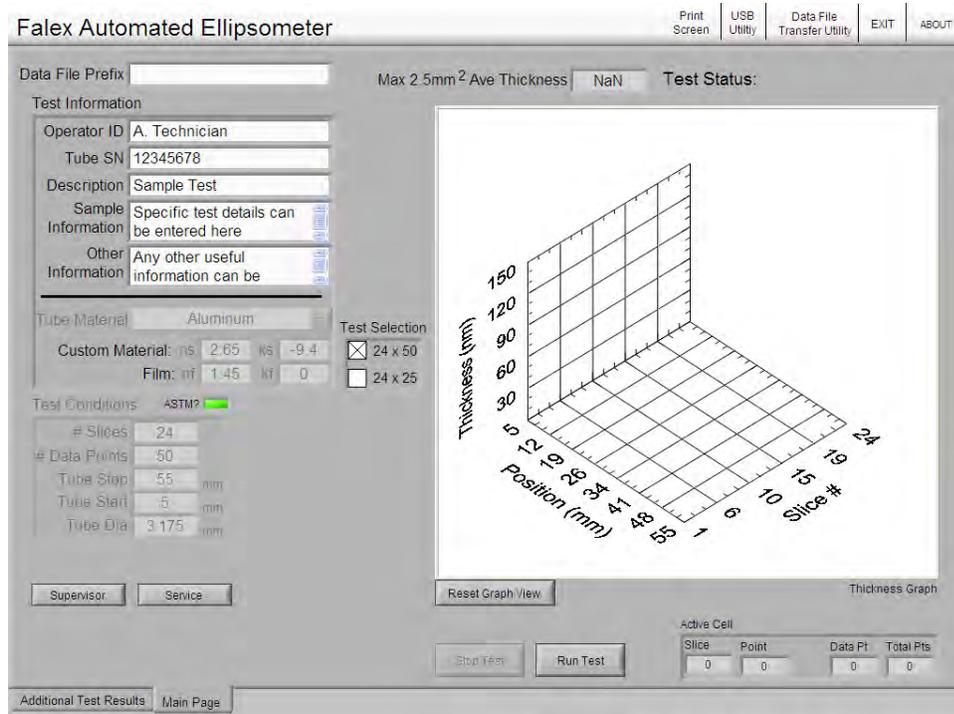

Figure 10 - Main Page
1. Power-up the machine. Make sure emergency stop button is pulled out and then toggle the power on/off switch to the 'On' position. The user interface will boot up and the 'Main Page' (figure 10) will appear.